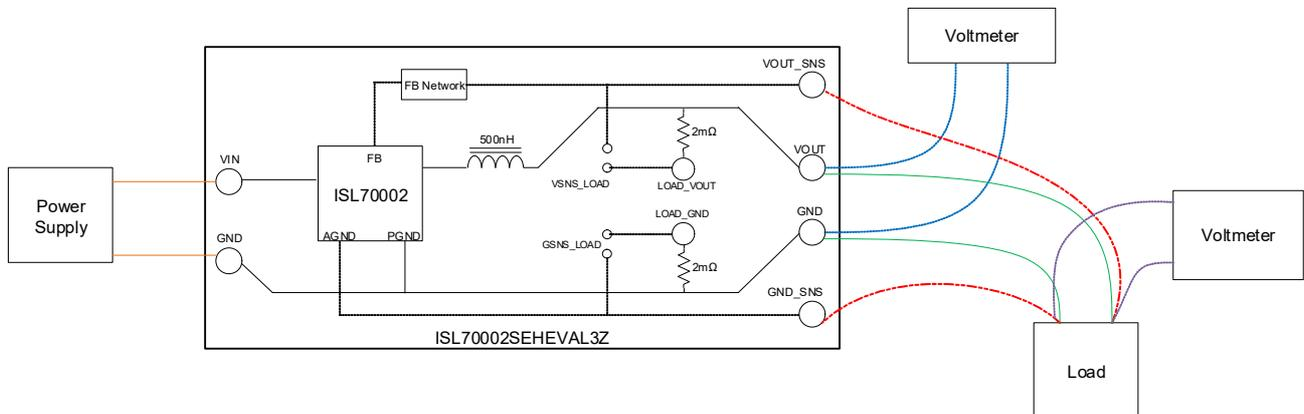

Figure 2. Quick Start Diagram
2. Study Figure 2 to see how to hook up the evaluation board.